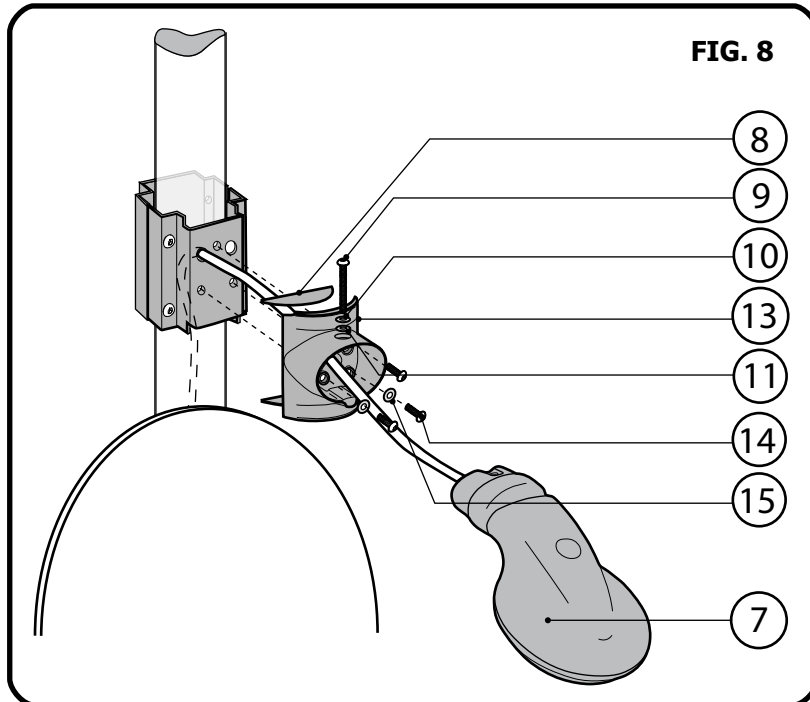

FIG. 8
- Feed the wire from the sign light through the corresponding left hand hole in the universal bracket (ITEM 13) and through the hole in the post just drilled (see Fig. 8). Feed it all the way into the post from the top (do not pull from the bottom as this may damage the wire if scraped against the hole in the post).